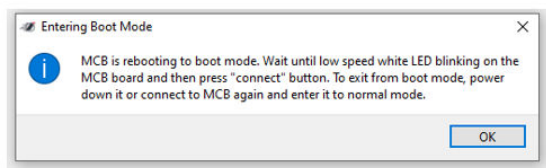

Figure 34. Reconnect the MCB
2. Wait until the MCB restarts and blinks white slowly then follow the on-screen instructions to reconnect to the MCB (see Figure 34). It is crucial to perform the disconnect and connect process. Otherwise, the update may not proceed correctly.